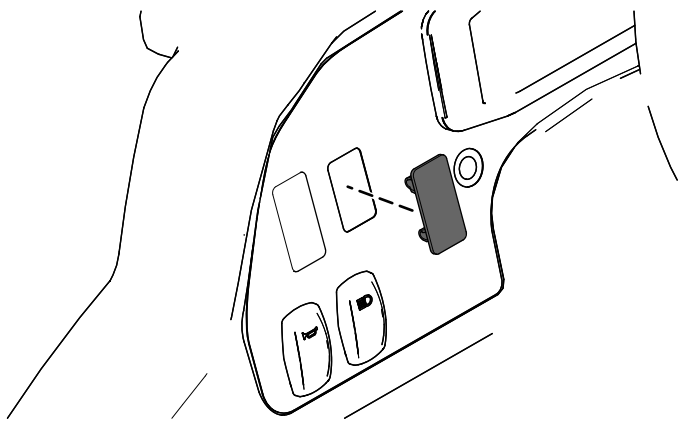

Figure 19
1. Remove the plastic plug from the dashboard (Figure 19).